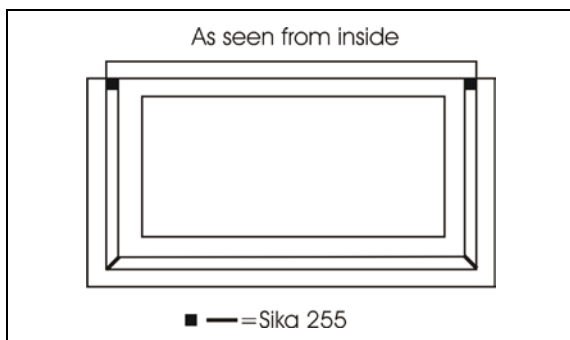

FIGURE 64: SIKA 255 APPLICATION
- Apply Sika 255 in the upper and lower frame corner as per FIGURE 64.